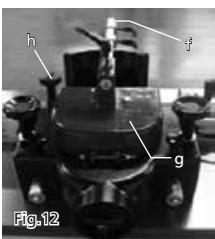

Fig.12
6. Attach guard mounting bracket (Fig.12-F) to the top cover (G) using lock knob.
7. With the guard mounting bracket now attached to the top cover, fasten the top cover to the fence casting using the supplied lock knob (H).